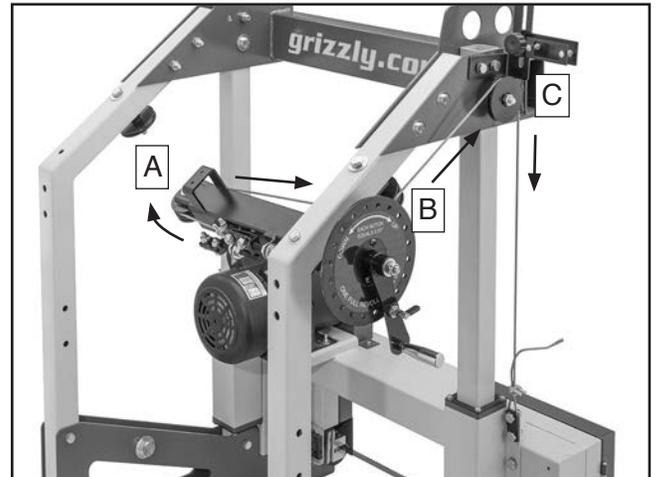
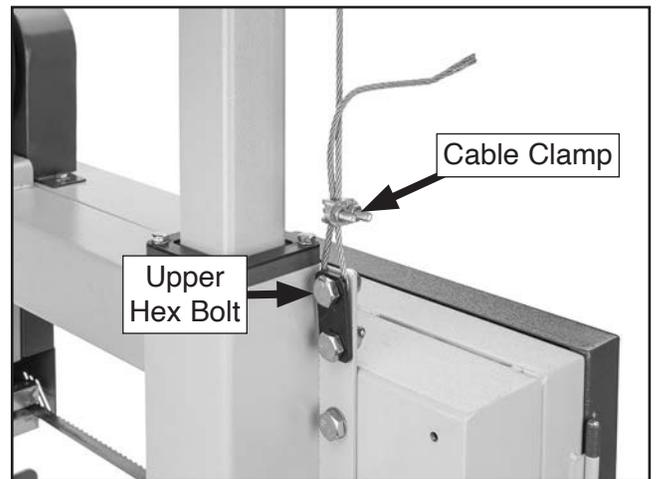

Figure 37. Lift cable A routed around pulleys (switch panel removed for clarity).
Figure 38. Second end of lift cable A secured.
36. Route lift cable A around pulley A, pulley B, and pulley C (see **Figure 37**), then loop lift cable end around upper cable plate hex bolt shown in **Figure 38** and secure with (1) cable clamp.